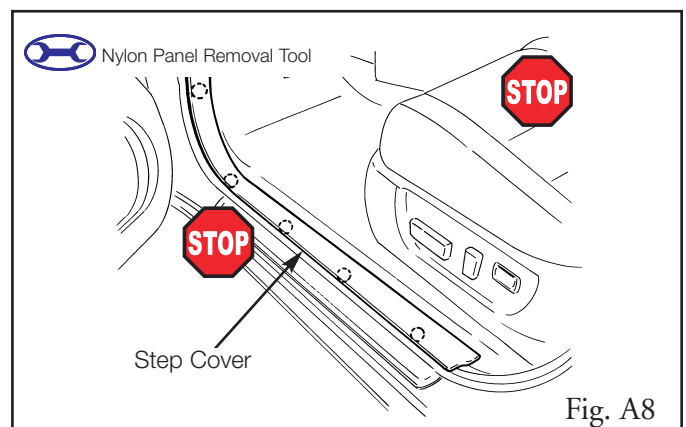

Fig. A8
8. Remove the driver's step cover. (Fig. A8)